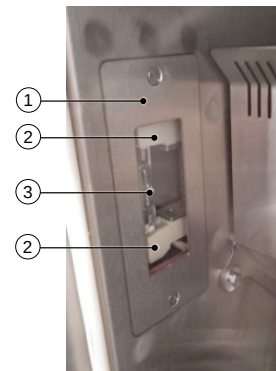

Figure 1: Backlight
2. Open the chamber. Locate the backlight (Fig.1).
3. Remove two screws that holds protective screen (1); take the screen off. If it is stuck, carefully insert flat screwdriver under the metal frame of the screen and turn it gently to detach the screen.
4. The lightbulb (3) is held by two spring loaded sockets (2). Take the bulb firmly and press towards one of the socket (2), release the opposite end of the bulb from the socket, and finally release the second end of the bulb and take the bulb out.